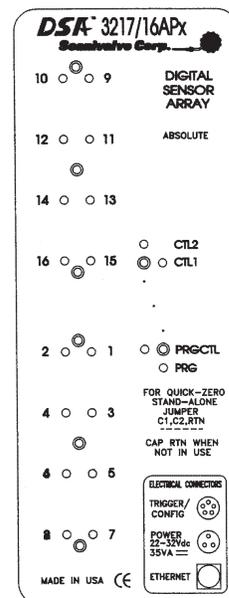

FIGURE 2.4 - DSA3217-PTP/16Px ABSOLUTE TOP PANEL
The DSA3217-PTP/16Px module can be used for absolute pressure measurement when equipped with absolute pressure transducers. A calibration valve is provided for each group of eight (8) sensors. All sixteen (16) transducers are tied a single calibration port, except in the cases of dual-range absolute modules. Figure 2.4 depicts the top panel of a DSA3217-PTP/16Px absolute pressure module.